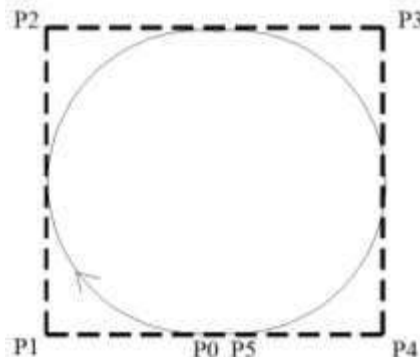

Fig1. Circular Bezier curve
- A few curves that look like simple, such as the circle, cannot be expressed accurately by a Bezier; via four piece cubic Bezier curve can simulate a circle, with a maximum radial error of less than one part in a thousand (Fig.1).